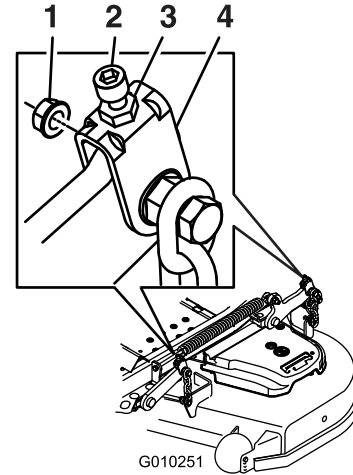

Figure 90
10. If needed, loosen the whizlock nut on the side of the yoke and the jam nut on top. Fine tune the screw adjuster by turning it to get 3 inch (7.6 mm) height (see Figure 90).
- Fine tune the screw adjuster by turning it to get 3-1/4 inches (8.3 mm) height (Figure 90).